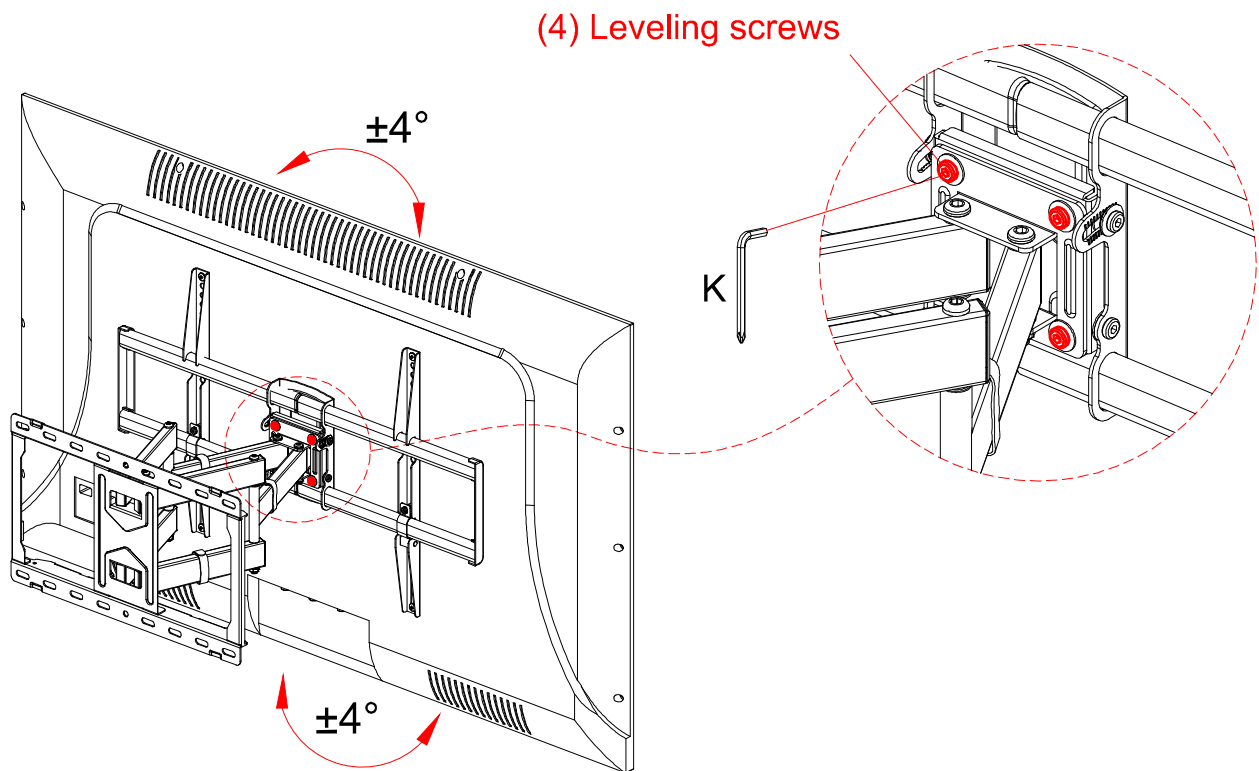

Figure 7
Step 6: Make sure the TV unit is horizontal, you can adjust the TV plate a little bit (+4/-4 degrees) to level the TV, by loosening or tightening (4) leveling screws with allen key (K). (Figure 7)